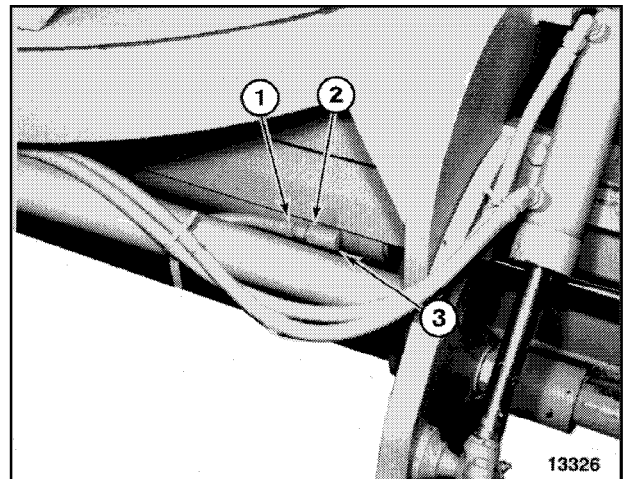

Figure 21
4. Disconnect hoses (1, Figure 21) from fitting (2). Remove fitting from rod end cylinder port (3). Plug hose and cylinder port.